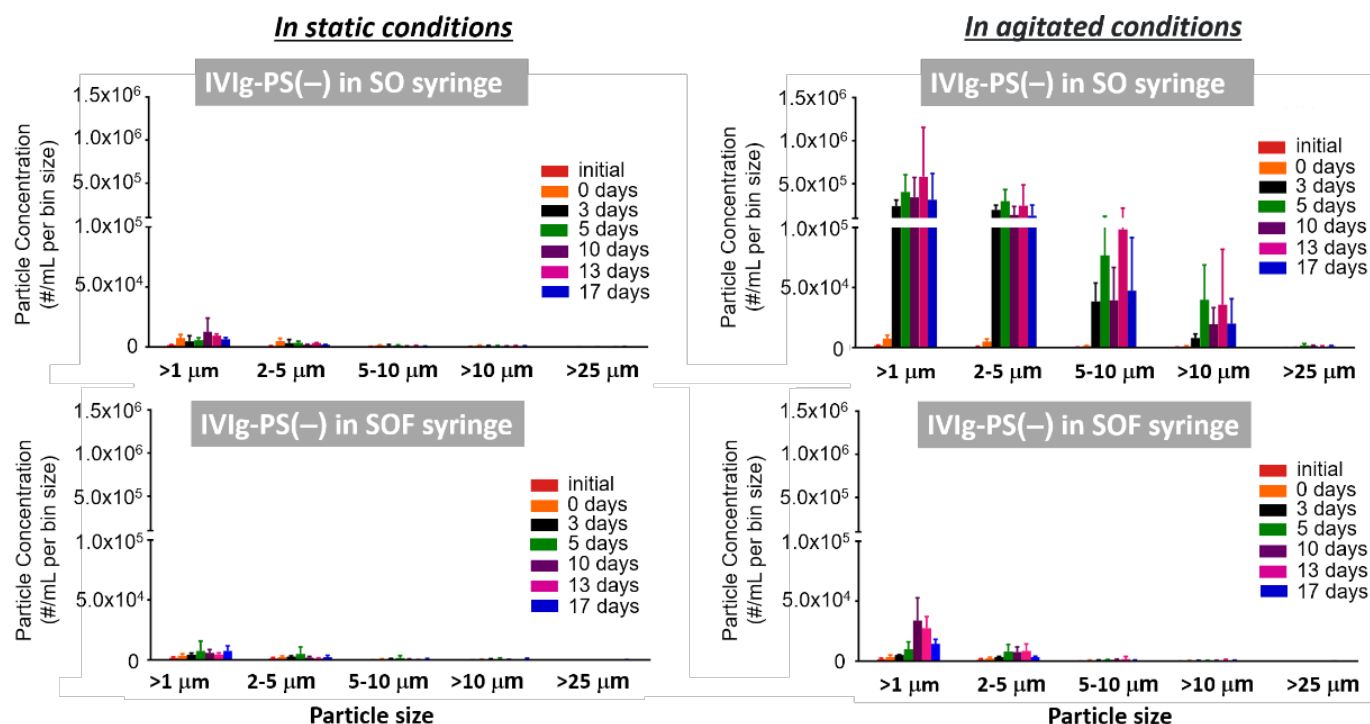

Figure 1: Results of particle assessment of IVIg products with and without SO in static and agitated conditions.
layer of the inner surface of a PFS, the layer of air remaining in the PFS is moved by physical stimulation, such as agitation, to remove the SO protein.¹⁶ Terumo performed a particle assessment using the flow imaging (FI) method to determine the effect of SO on the aggregation of biopharmaceuticals under agitation, simulating physical stress during transportation, or during manipulation and administration procedures. The systems compared were PLAJECTM, a cyclo-olefin polymer (COP) ready-to-fill SOF system, and a siliconised PFS (Figure 1). This assessment used intravenous immunoglobulin (IVIg) as a model protein.